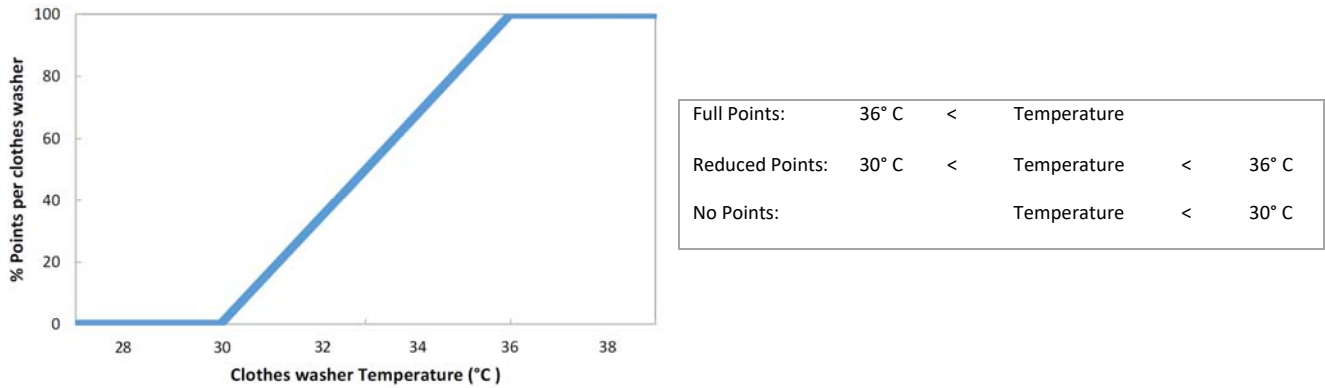

Figure 16. Clothes washer sub contest point's distribution
- b) Reduced points are earned if the temperature sensor reaches a temperature higher than 30°C but does not reach 36°C. Reduced points will be scaled linearly, as shown in Fig. 16.